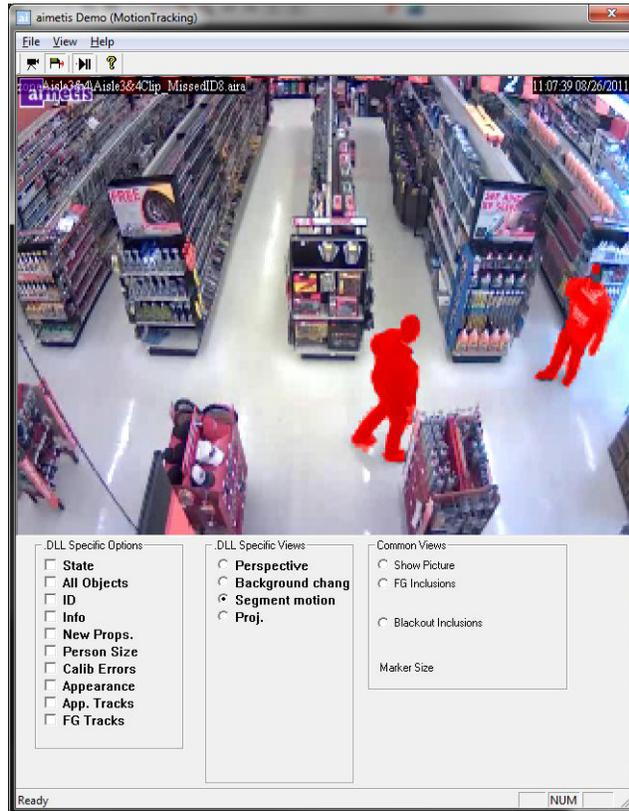

Figure 24. Motion Tracking Interface (trackerapp)
4. The **Aimetis Demo (Motion Tracking)** dialog box opens (Figure 24 on page 162). A live video is displayed in the window.